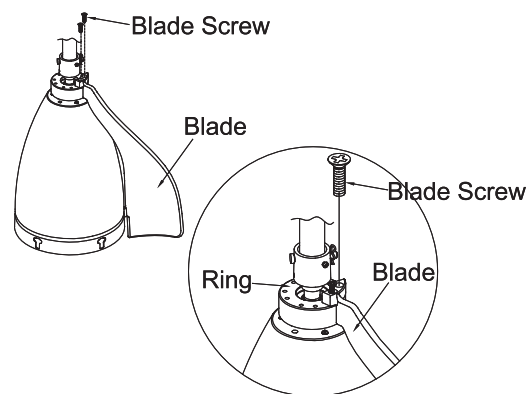

Fig. 8
Step 1. Place the fan assembly into the styrofoam pad. (The styrofoam pad serves as a holder for the fan during the first stages of assembly). Insert the blade into one of the slots on the flywheel, as shown. Attach the top of blade to the ring with two flat head blade screws provided in hardware bag. Do not tighten screws. (Fig. 8)